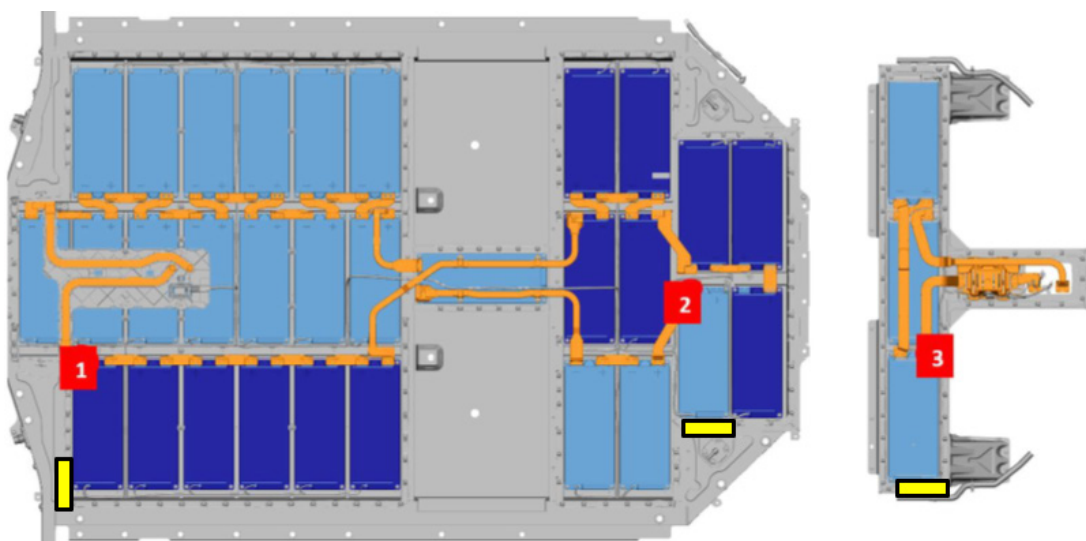

Figure 2 - 33-module HV Battery measurement points
DST Procedure for 33-module Taycan Battery Pack (Figure 2)
- Repair scopes in only the upper "T" section require an initial DST (in addition to the points in *figure 2*) at the mid-pack fuse as shown in step 3.9.3 of Safety test after assembly work on the high-voltage battery with 33 modules in WM 270803A5. If the DST fails, proceed with removing the lower lid and perform DSTs at points 1, 2, and 3 as identified below.
- The yellow boxes in *Figure 2* designate the section of laser clean surface (silver stripe) to contact using the negative probe to ground the dielectric strength tester. This method ensures consistency in testing.